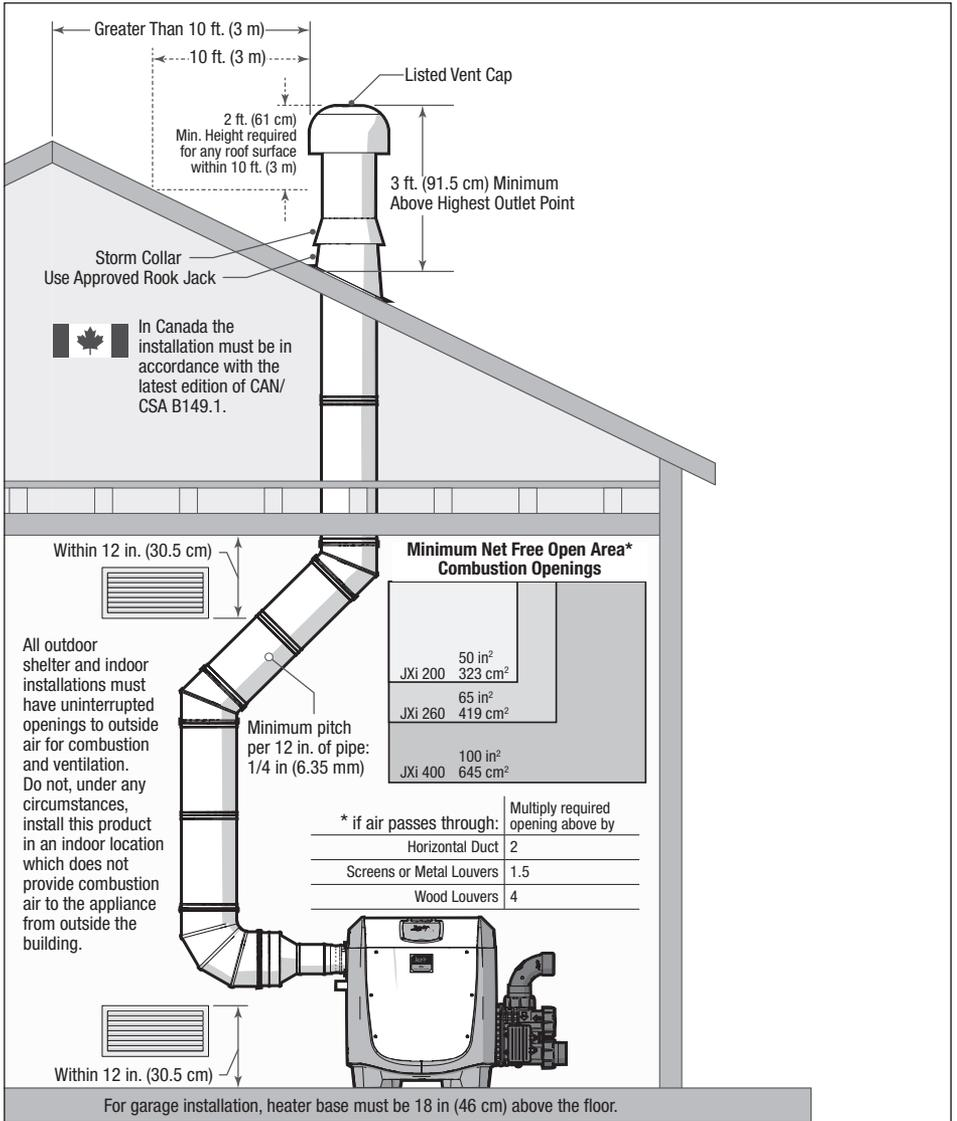

Figure 4. Indoor and Outdoor Shelter Installation
When combustion air is supplied directly through an outside wall, each opening should have a minimum free area of 1 square inch per 4,000 BTU/h (1.2 kW) input of the total input rating of all appliances in the enclosed area. If combustion air must pass through horizontal ducts, each opening should have a minimum free area of 1 square inch per 2,000 BTU/h (1.2 kW) input of the total input rating of all appliances in the enclosed area. Details can be found in *Figure 4*.
The “Minimum Net Free Open Area” information from *Figure 4* is not applicable in installations where exhaust fans or blowers of any type are used. Any equipment which exhausts air from the room where the heater is installed can deplete the combustion air supply which could lead to poor combustion, decreased heater efficiency and reliability and increased emissions. This could cause flue products to accumulate in the room. Additional air must be supplied to compensate for such exhaust. Consult a professional engineer to ensure that installations where exhaust fans or blowers are used are designed and installed in accordance with all applicable local and national installation codes.
- Horizontal runs must be sloped upwards away from the heater to a vent terminal at a minimum of 1/4 in per horizontal foot (2 cm/m). See *Figure 4*.